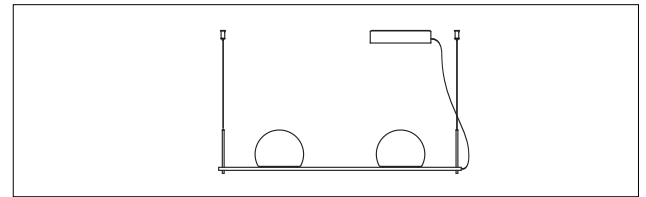
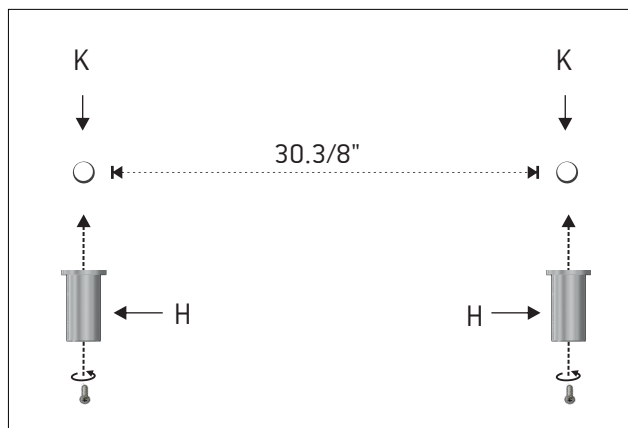
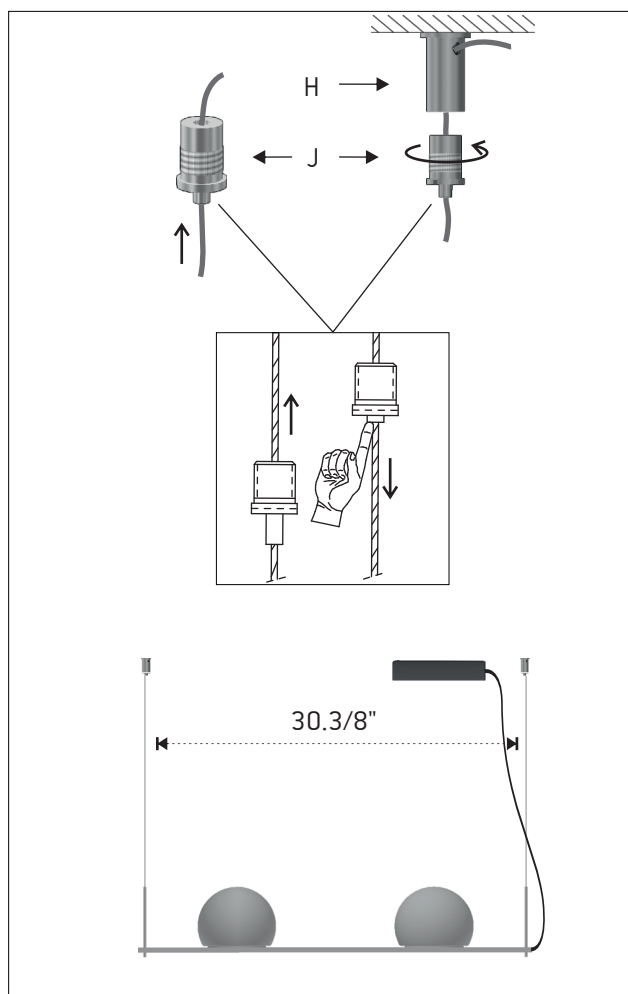

Figure 1A
Figure 5
Figure 6
- To be mounted facing up (figure 1A) go directly to step 5 (figure 5)
- 5 - Mark one spot (K) on the ceiling at a distance of 30.3/8" (772mm) between them and fix the tensors (H) in the mark. Figure 5. [See figure 6 to see the result]
- 6 - Insert the steel cables into the gripper supports (J) and then insert them through the side hole of the tensors (H). Again screw the gripper support to the tensor and adjust the cable to the desired length. Figure 6